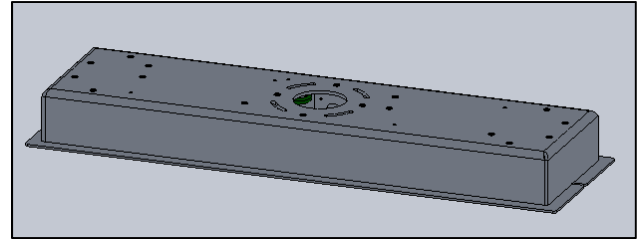

FIG. 3 - CANOPY SUBASSEMBLY
3. CANOPY SUBASSEMBLY (Pre-assembled as shown in FIG. 3)